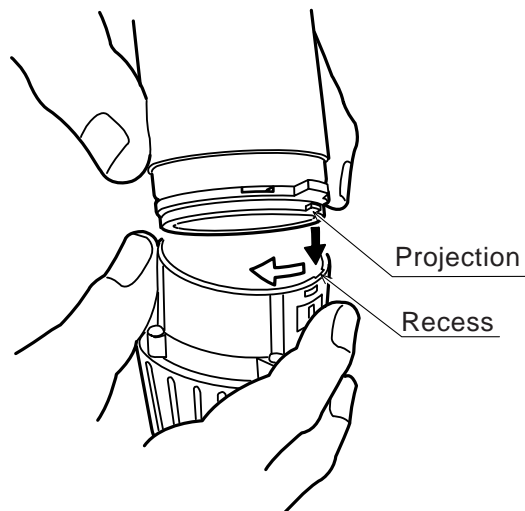

Fig. 9
- (f) Install the reassembled state in step (1) and the reassembled state in step (e) together. (See Fig. 9.)